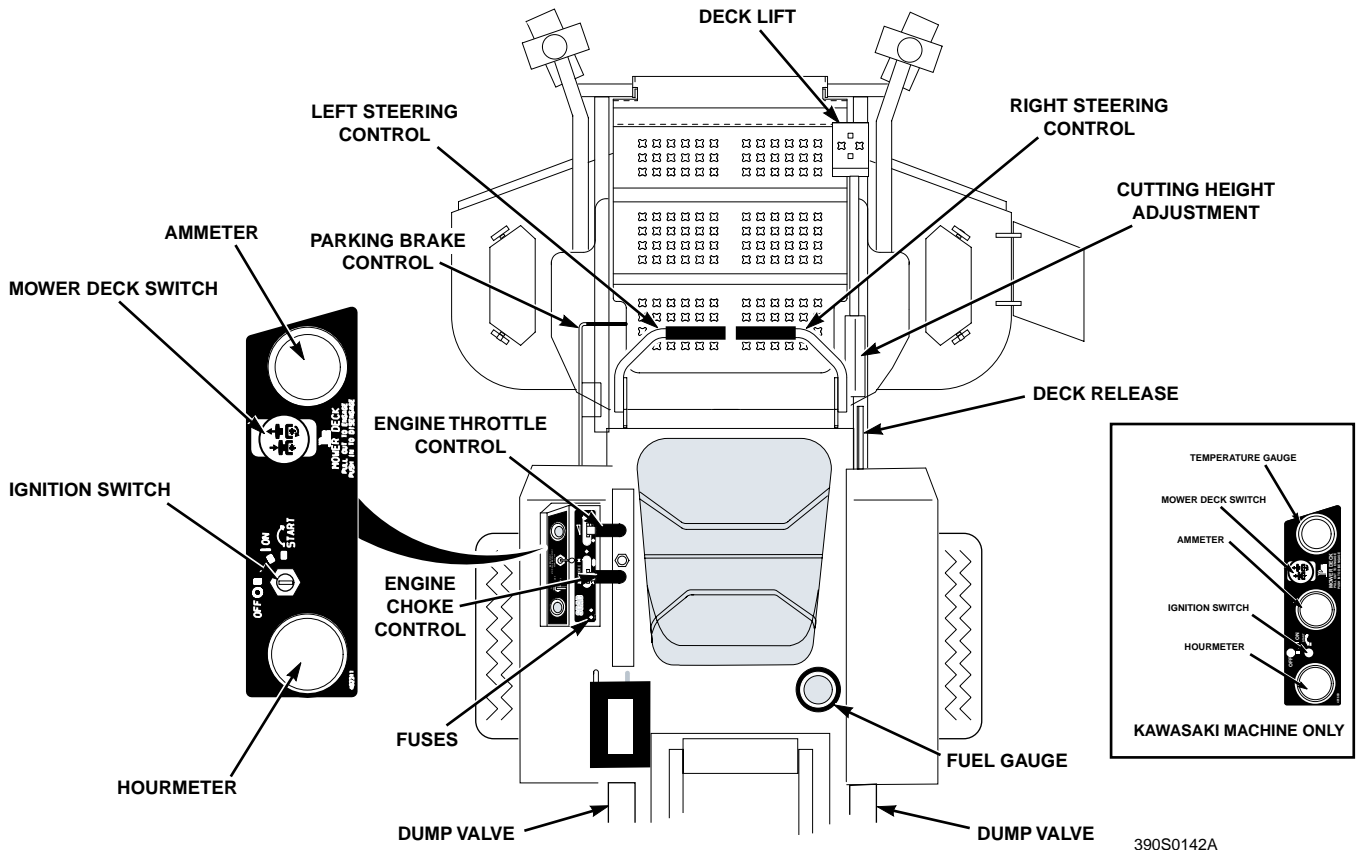

Figure 4-1 Controls and Instruments
- 1. Ignition Switch (Figure 4-1).** The ignition switch is used to start the engine and has three positions; OFF, ON, and START.
- 2. Mower Deck Switch (Figure 4-1).** Used to engage and disengage the mower drive system. Pulling up on the switch will engage the deck drive. Pushing down on the switch will disengage the deck drive.
- 3. Engine Choke Control (Figure 4-1).** Used to start a cold engine.
- 4. Engine Throttle Control (Figure 4-1).** Used to control the engine speed. Pushing the lever forward increases engine speed. Pulling the lever back decreases engine speed. Full back position is the IDLE position. Full forward is the cutting position.
5. **Ammeter (Figure 4-1).** Indicates the condition of the charging system. When the engine is running the needle should be toward the positive end of the meter. If the needle is toward the negative end of the meter, this indicates a discharge condition and the machine should be taken in for service.
6. **Hourmeter (Figure 4-1).** Indicates the number of hours the engine has been operated. It operates whenever the ignition key switch is in the ON position. It can be used to keep track of maintenance intervals and the amount of time required to perform various tasks.
7. **Fuse Holders (Figure 4-1).** Two 20-amp fuses protect the mower's electrical system. To replace fuses, pull fuse out of the socket and install a new fuse.
8. **Left Steering Control (Figure 4-1).** Used to control the mower's left wheel when traveling forward or reverse.
9. **Right Steering Control (Figure 4-1).** Used to control the mower's right wheel when traveling forward or reverse.
10. **Parking Brake Control (Figure 4-1).** Used to engage and disengage the parking brakes. Pull the lever back to engage the parking brakes. Push the lever forward to disengage the parking brakes.
11. **Fuel Tank Gauge (Figure 4-1).** Indicates the amount of fuel in the fuel tank.
13. **Deck Lift Foot Lever (Figure 4-1).** Used to raise and lower the cutter deck.
14. **Cutting Height Adjustment (Figure 4-1).** Used to set the cutter deck at the desired cutting height.
15. **Deck Release Lever (Figure 4-1).** Used to lock the cutter deck in the transport position. Push the foot pedal forward and lift up on the release lever to release the cutter deck for normal mowing.
16. **Temperature Gauge (Figure 4-1).** Indicates the operating temperature of the engine. *Used on mowers with the Kawasaki liquid cooled engine only.*